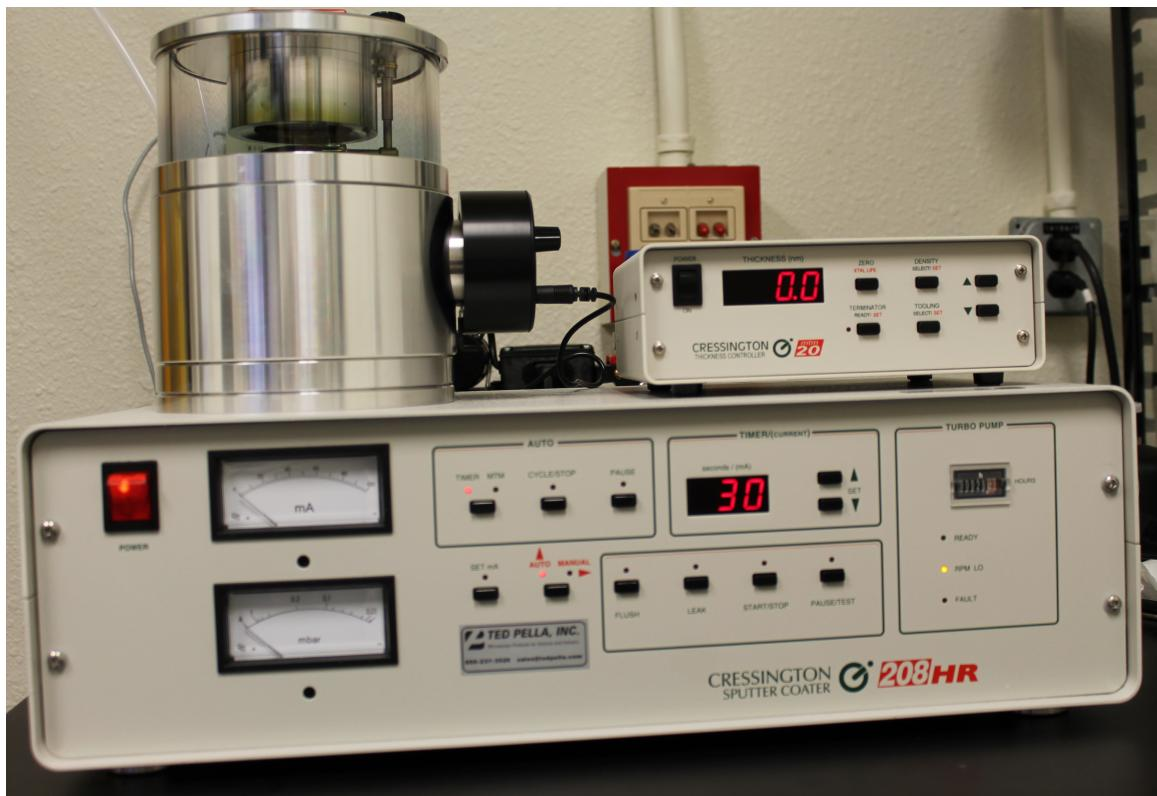

Figure 1: Cressington Magneton Sputter Coater 208HR
- 4.3 Specimen Box, and carbon double sided adhesive tape, Ted Pella Figures 1&2.